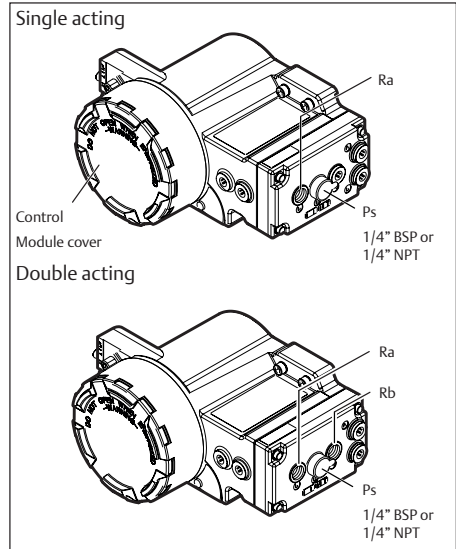

Fig. 3.1 Pneumatic connections
- 6 The exhaust ports Ra and Rb on the module (see Figure 3.1) are shipped from the factory with transport protection.